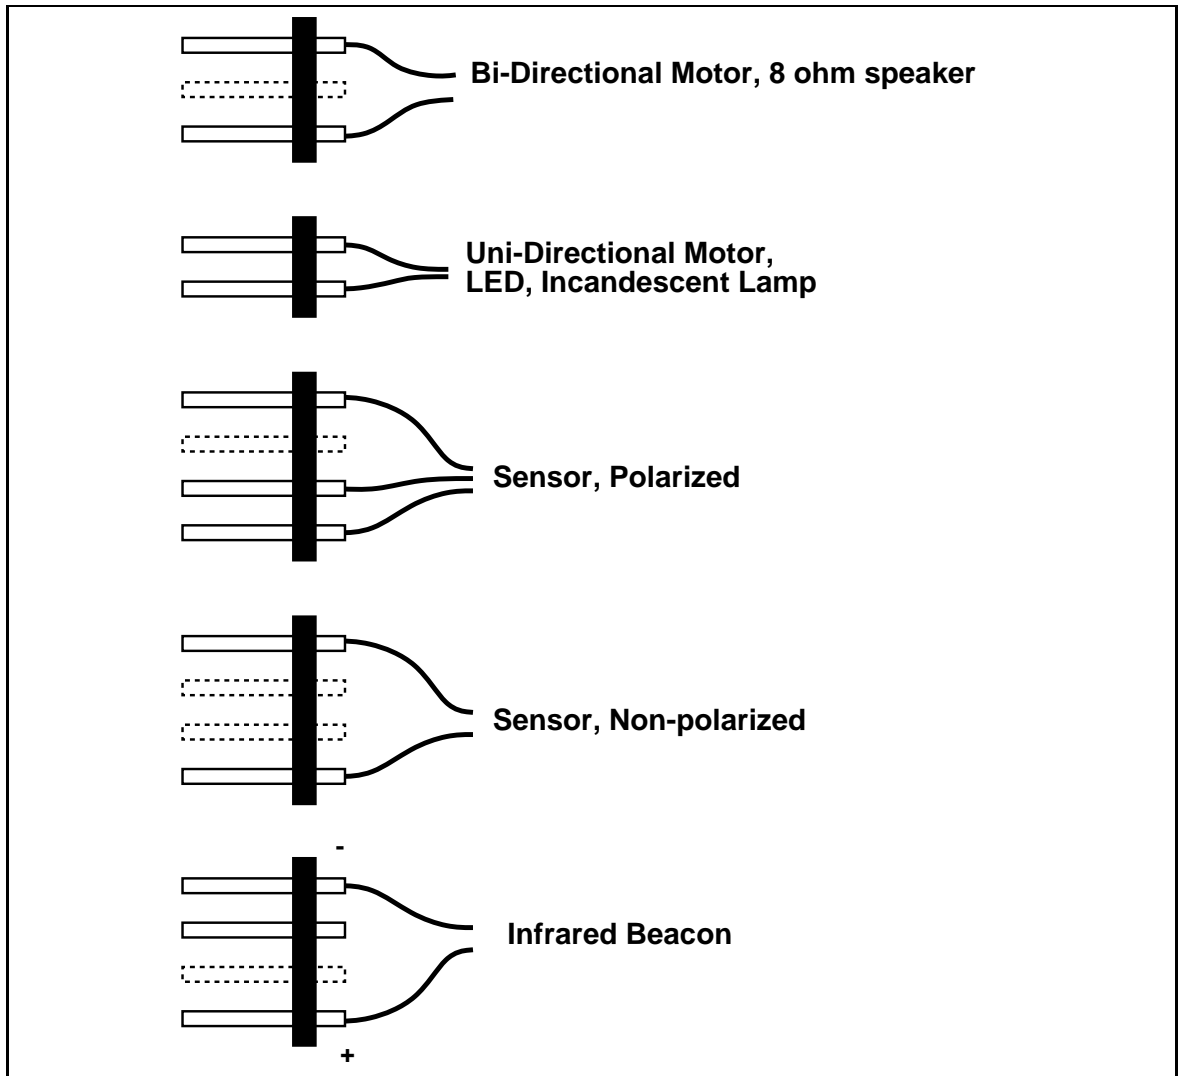

Figure 19: Standard Connector Plug Configurations
- Mount other end of the wire to outside pins of a four-pin male connector with one pin removed (see Figure 19). The pos-color wire goes to the isolated end-pin (no adjacent pin). Use the guidelines shown in Section 5. Be sure to place heat-shrink tubing on the wires, well away from the connection, *before* soldering. After soldering, slide the heat-shrink tubing down over the pins to make a neat connection. Then apply heat.
Several different connector styles are used depending on the device that is being connected to the robot. Figure 19 shows the connector configurations used for bidirectional motors, unidirectional motors, sensors, and the infrared beacon.
- Motor plugs should be wired for bidirectional use, as shown in Figure 19. For the following steps, cut three-long strips of male socket header as needed.